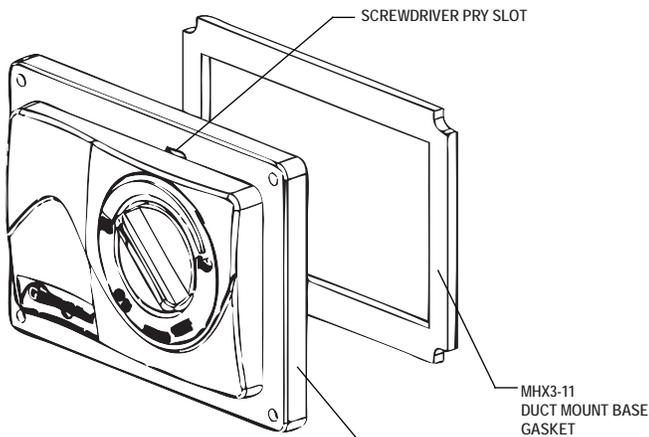

FIG. 2
- Use the plastic duct mount plate as a template. Accurately mark and drill the (4) 3/32" mounting holes and cut away the 4-1/4" x 2-1/2" section of the duct mount plate.
- Place duct mount base gasket on the humidistat base and mount the base with four screws. Low voltage wire may enter the humidistat under the gasket (see fig. 2)